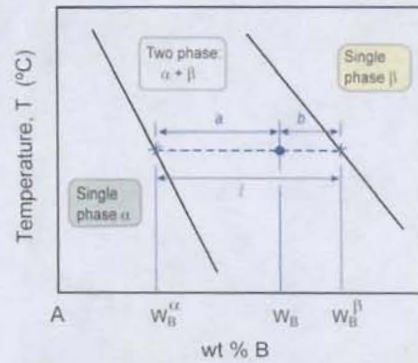

Figure 3: The lever rule
8. Derive the lever rule for a general mixture of two phases,  $\alpha$  and  $\beta$  (Figure 3).